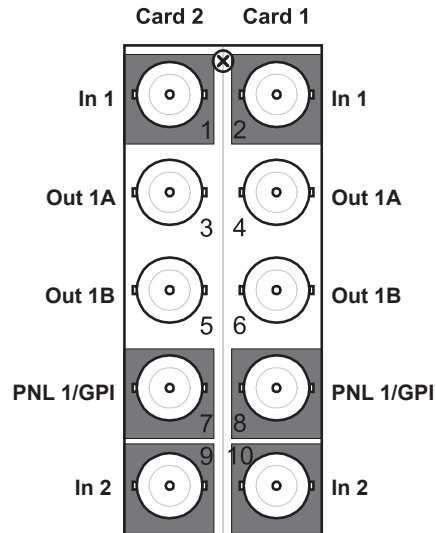

Figure 4.2 Cable Connections for the R2AS-8258 Rear Module
- **R2AS-8258** Split Rear Module — Each rear module occupies two slots and accommodates two cards. This rear module provides two inputs, two outputs, and a GPI connection per card. **Figure 4.2**